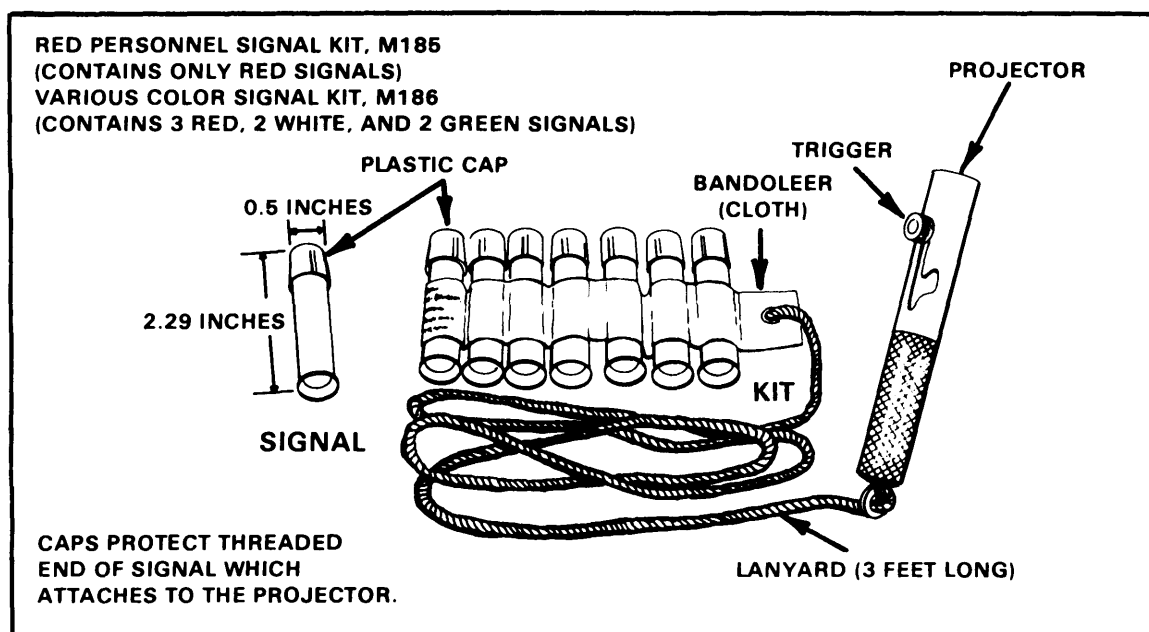

Figure 5-8. Signal kit 1.
(1) Contents. The projector and the bandoleer plus seven projectiles/signals make up the signal kit (Figure 5-8). All signals may be obtained and fired separately. The M185 red signal kit contains only red signals. The M186 signal kit contains three red, two white, and two green signals.